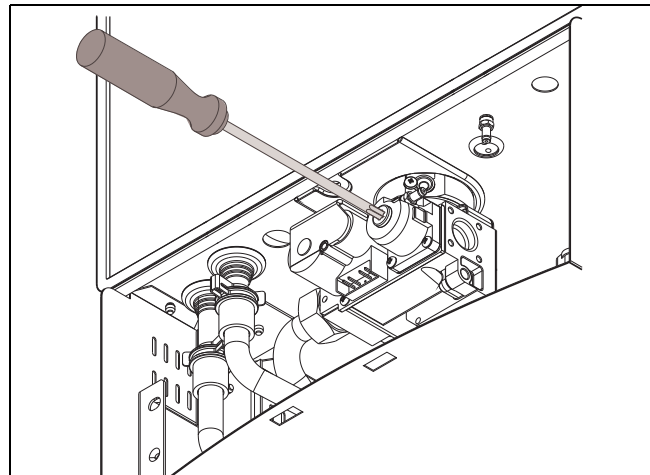

Fig. 75 Adjusting P2 CO2 level
- ▶ Remove yellow painted #40 Torx cover from the front of the gas valve. (Fig. 75) A plastic #40 Torx screw will be revealed.